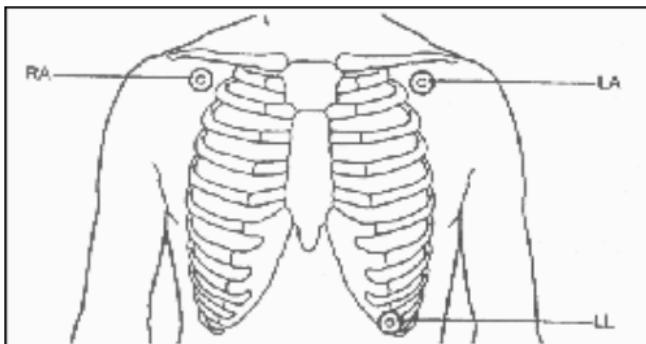

Figure 4-1 ECG 3-lead electrode placement
2. Place chest leads on the patient. If your chest lead has not conductive gel, apply some conductive gel on intended site of the skin.(figures 4-1 and 4-2)
3-lead electrode placement (Figure 4-1)